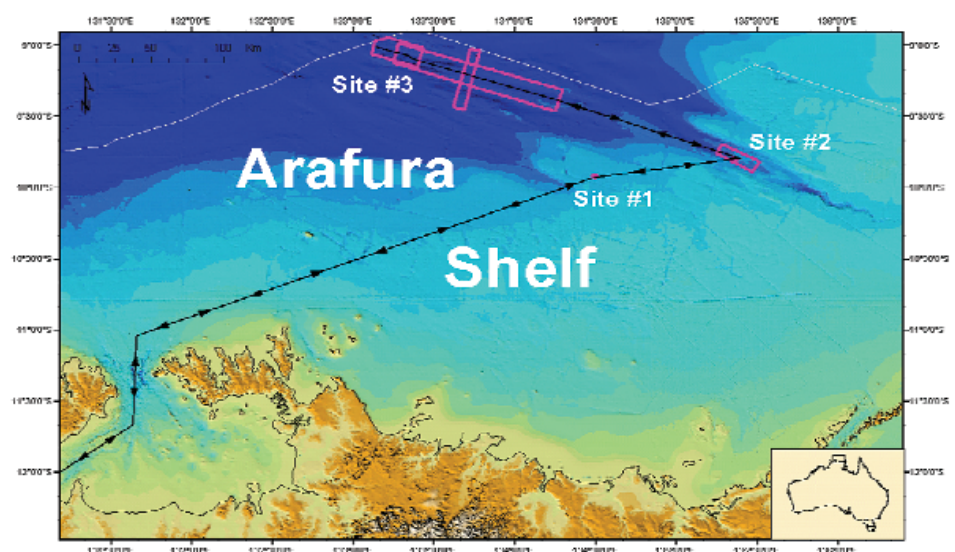

Figure 1: The location of survey 282, the ship tracks and acquisition areas
3. document modern sedimentary / environmental settings of the Arafura Sea northern margins for bio-regionalization and regional marine planning (Fig.1).
Initially areas (Fig. 1) have been selected for detailed mapping using Swath bathymetry, side scan sonar, 3.5kHz sub-bottom profiles and seismic reflection data. This data will provide information on the nature of the sea floor, variation in sediment type and bathymetry, and evidence for shallow gas and faulting. All of these data will then be used to select specific sample sites. These will be chosen to reflect a range of benthic habitats for environmental and sedimentological sampling and areas of suspected natural hydrocarbon seepage for geochemical and environmental sampling.
(See Figure 1 and Time Estimates)